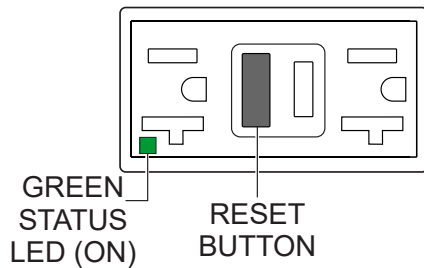

Figure 84. GFCI Receptacle (ON/Restore)
5. Press the **RESET** button (Figure 84) to restore power to the GFCI receptacle and verify that the status LED is **ON (GREEN)**.